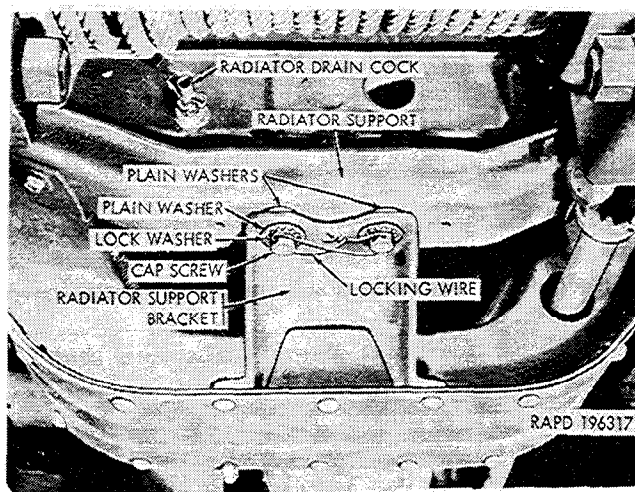

Figure 2-94. Disconnect points at radiator support.
d. Disconnect Radiator Support. Remove the locking wire (fig. 2-94), from the two radiator support bolts. Remove the two bolts, lockwashers, and plain washers.